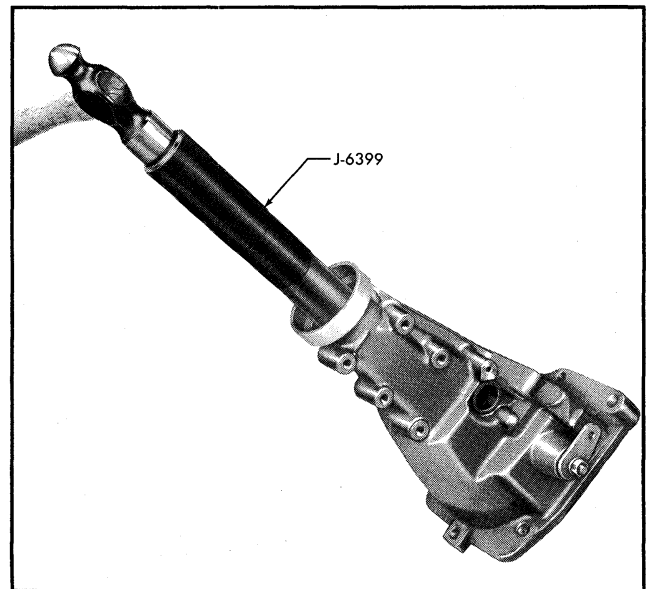

Fig. 7A-25 Removing or Installing Extension Case Bushing
4. Coat I.D. of bushing with transmission oil, and new seal with sealing compound and start straight in bore of case extension. Using installer J-5154-A tap seal into extension case (Fig. 7A-10).